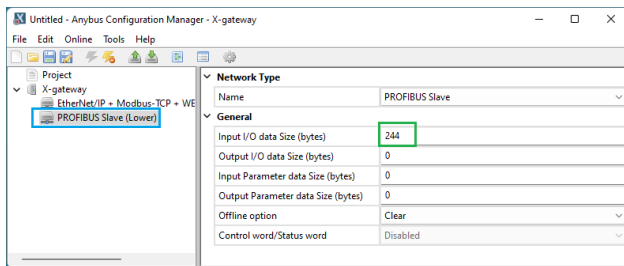

Figure 5
7. Select the lower network as highlighted in blue in Figure 5
8. Adjust the Input I/O data Size as highlighted in green in Figure 5. The full memory map is 244 bytes except ControlNet, which is 248 bytes and Profinet which is 256 bytes. With all protocols, the input data size can be set smaller. However, monitoring the fault bytes and heartbeat are essential, so the minimum usable size is 82 bytes.